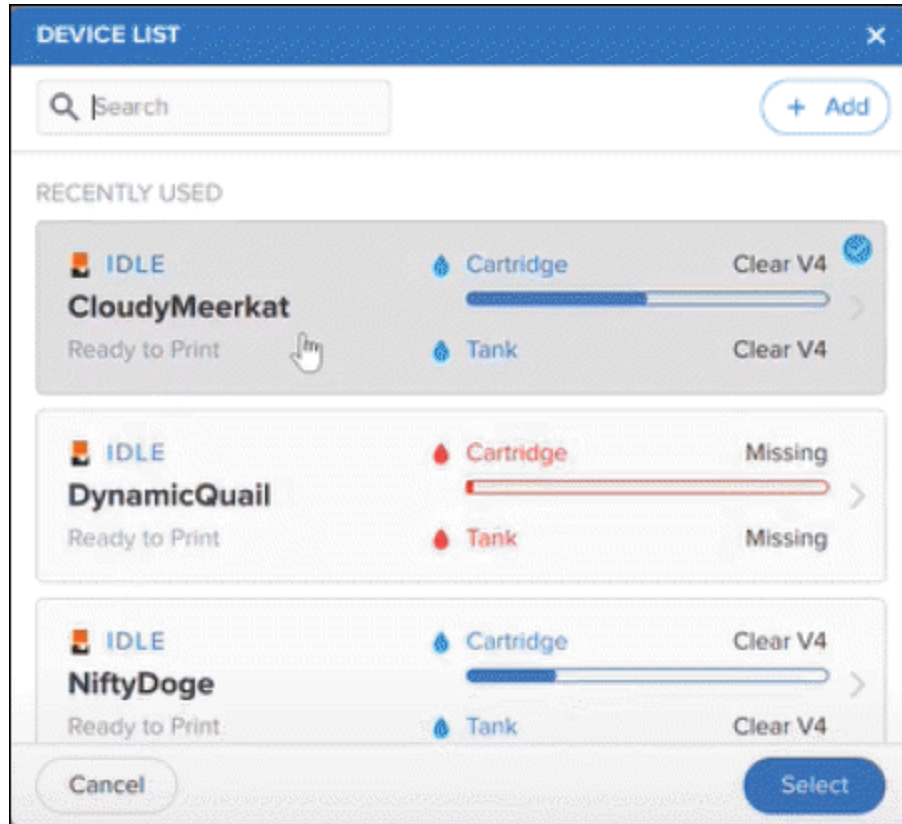

Figure-65. DEVICE LIST dialog box
- Click in the **Select Printer** box of **Printer** area in the dialog box to select desired printer. The **DEVICE LIST** dialog box will be displayed; refer to Figure-65.